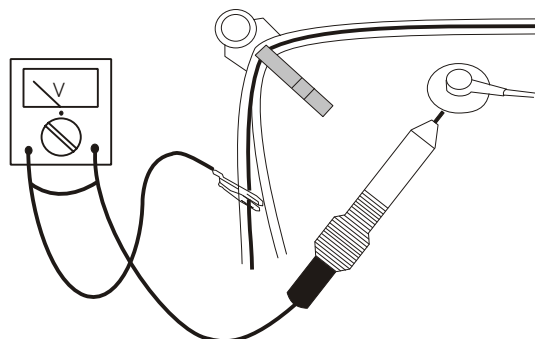

Fig.1
2. In order to prevent damage to ICs and transistors, all high-voltage flash-overs must be avoided. In order to prevent damage to the picture tube, the method shown in Fig. 1 should be used to discharge the picture tube. Use a high-voltage probe and a multimeter (position DC-V). Discharge until the meter reading is **0 V** (after approximately 30 seconds).
To be able to perform measurements and repairs on the "circuit boards", the monitor should be placed in Service Position (fig. 1) first: